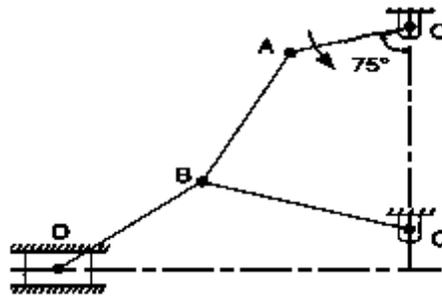

Figure 1
- (b) For the mechanism shown in Figure 1. The crank OA rotate with 500 rpm. Determine the linear velocity of the slider D and the angular velocity of the link BD, when the crank is inclined at an angle of  $75^\circ$  to the vertical. The dimensions of various links are OA = 28 mm. AB = 44 mm BC= 49mm and BD = 46mm. The Centre distance between the Centre's of rotation O and C is 65 mm. The path of travel of the slider is 11 mm below the fixed point C. The slider moves along a horizontal path and OC is vertical. [7M]